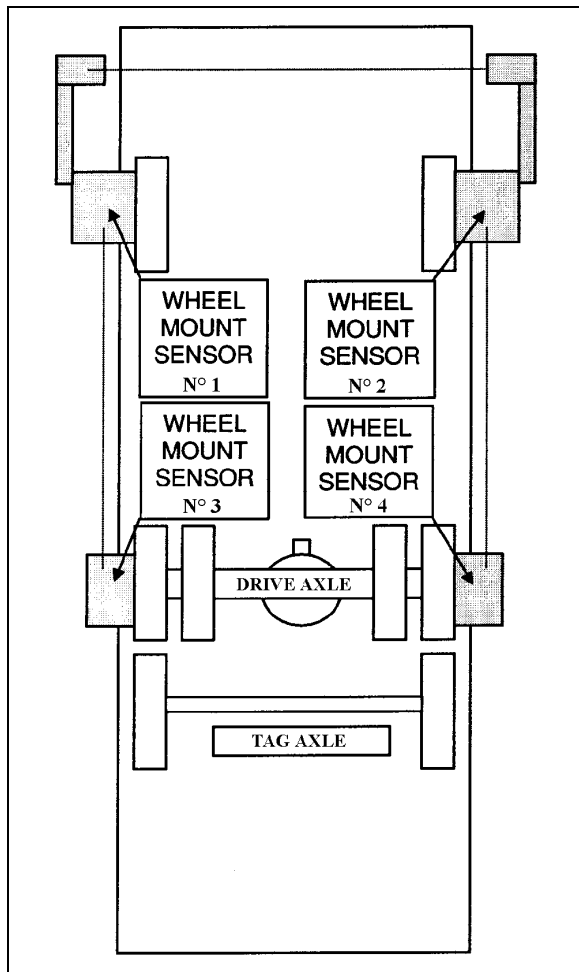

FIGURE 6: FRONT & DRIVE AXLE ALIGNMENT 11025
3. Install wheel mount sensors on front end and drive axle wheels (fig. 6).